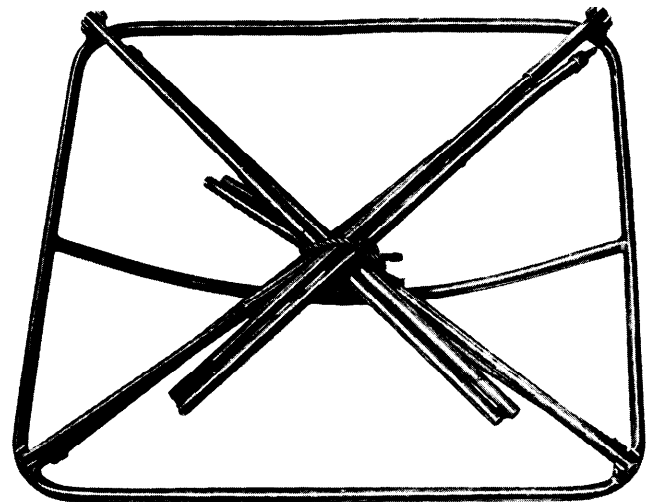

Fig. 4 — Frame Secured For Storage
**4.01** When the tent is not in use, collapse the frame and secure it in the manner shown in Fig. 4 for transportation or storage.